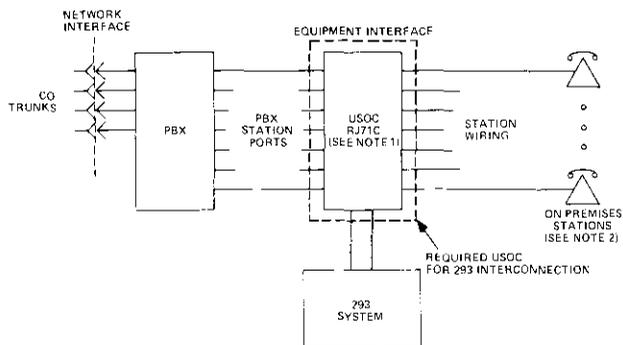

figure 12. Typical 293 System arrangement with PBX interface
table 1. Sample information table for 293 System configured as shown in figure 12
7.11 Figures 12 and 13 in this section show typical 293 System equipment configurations, while tables 1 and 2 provide a sample information table for each. These sample tables are representative of the information that the customer must supply to the serving telephone company in regard to installation of registered 293 Systems. Be aware that it is the responsibility of the customer at the time USOC's are ordered to specify the sequence in which CO or PBX lines are to be connected. To determine the exact cable pair assignments, use table 1, the "293 USOC Assignment Worksheet" supplied in section 2 of the 293 System Installation Practice. For 293 Systems larger than 100 stations, multiple sheets are required.